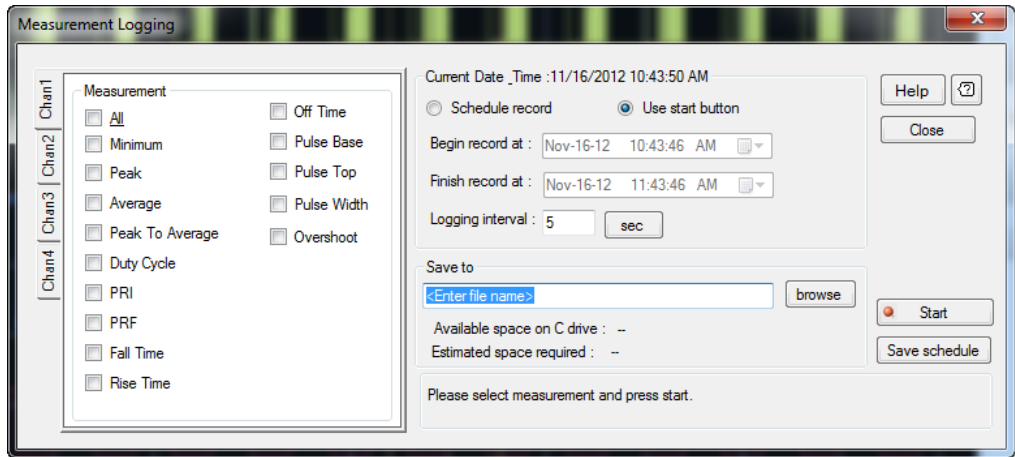

Figure 2-150 Measurement Logging dialog
- 3 The Measurement Logging dialog is displayed as shown in Figure 2-150.